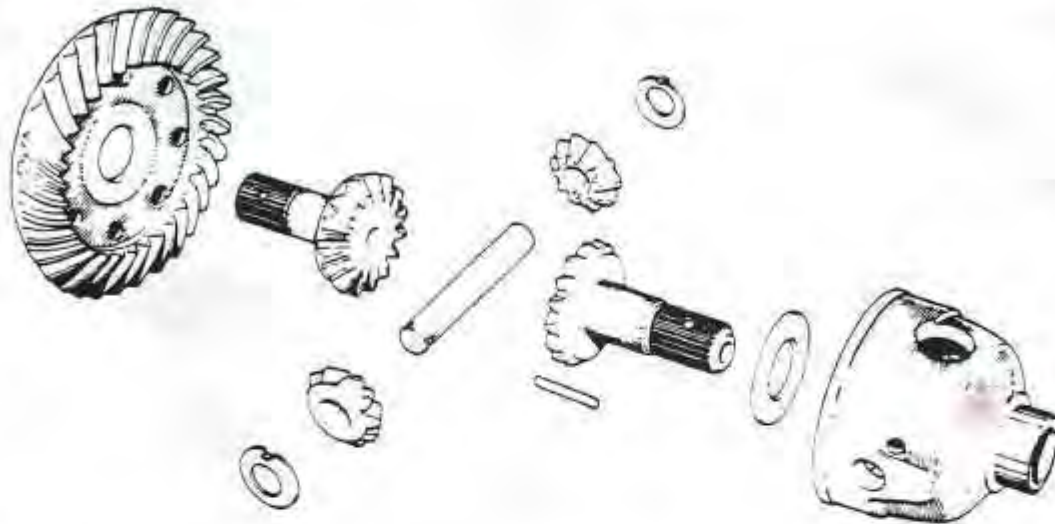

Fig. 35
8. Remove the remaining carrier bearing. Retain any shims that may be located between the bearing and the carrier. (Fig. 35)